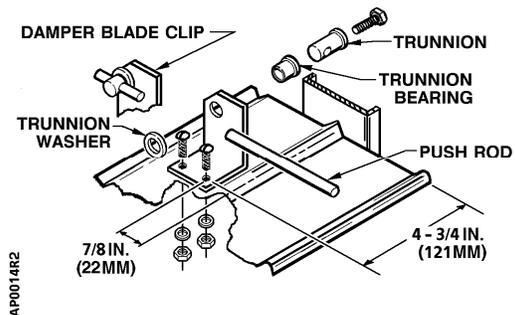

Figure 4. Damper Blade Clip.
2. Attach damper blade clip (included) to damper blade (Figure 4). Use the same clip location for both normally open and normally closed dampers. Put damper in its normal position, open or closed. Connect push rod to trunnion in blade clip and tighten setscrews. Connect other end of push rod to crank on drive shaft and tighten trunnion setscrew on push rod. Position crank so push rod is parallel to bracket, then tighten crank setscrews.